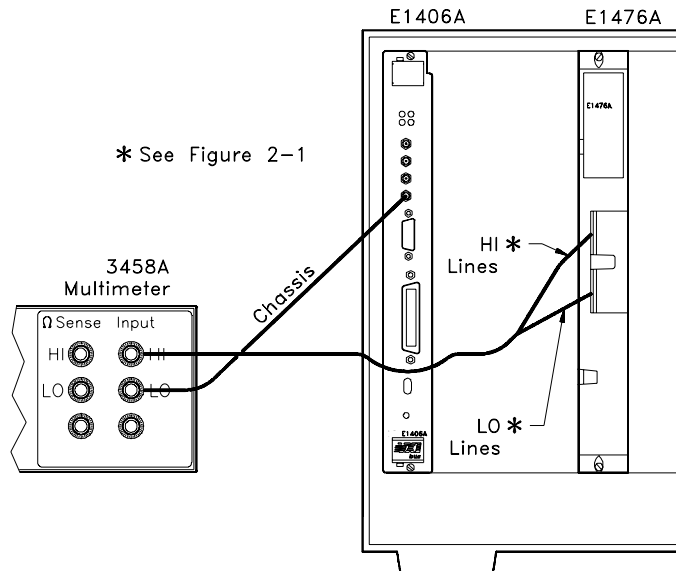

Figure 2-8. HI/Lo to Chassis Isolation Test Connections
4. Hardware Connections (see Figure 2-8)